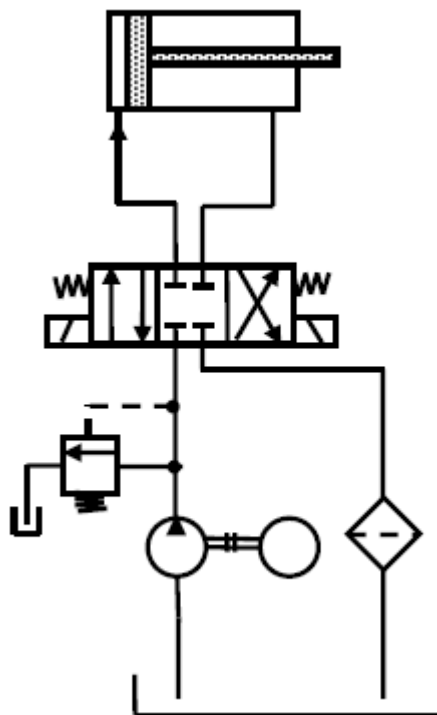

Figure 2.3 - Return line filter
- **Return line filters (low-pressure filters):** These filters filter the oil returning from the pressure-relief valve or from the system, that is, the actuator to the tank (Fig. 2.3). They are generally placed just before the tank. They may have a relatively high pressure drop and hence can be a fine mesh. These filters have to withstand low pressure only and also protect the tank and pump from contamination.